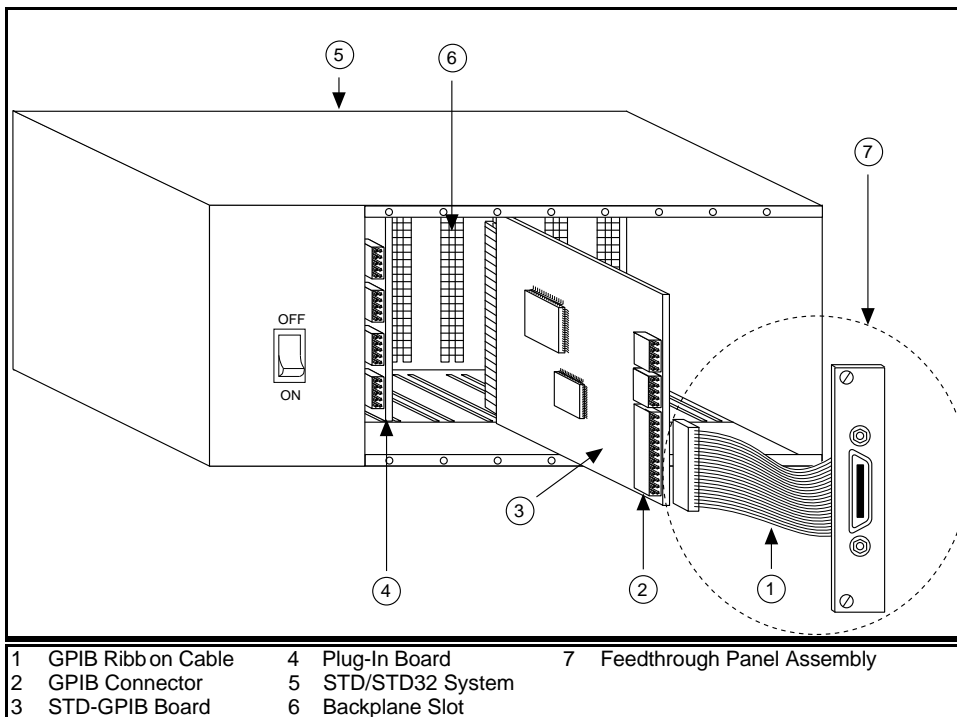

Figure 2-1. Installing the STD-GPIB Board
3. Insert the STD-GPIB into any unused slot with the GPIB connector facing away from the backplane, as shown in Figure 2-1.